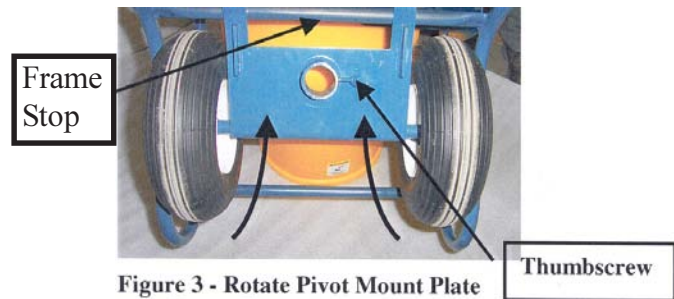

Figure 3 - Rotate Pivot Mount Plate onto Frame Stop
2. Rotate pivot mount plate away from drum and onto frame stop. Back off thumbscrew to allow clearance for inserting pivot tube on stand through tube. (Figure 3)